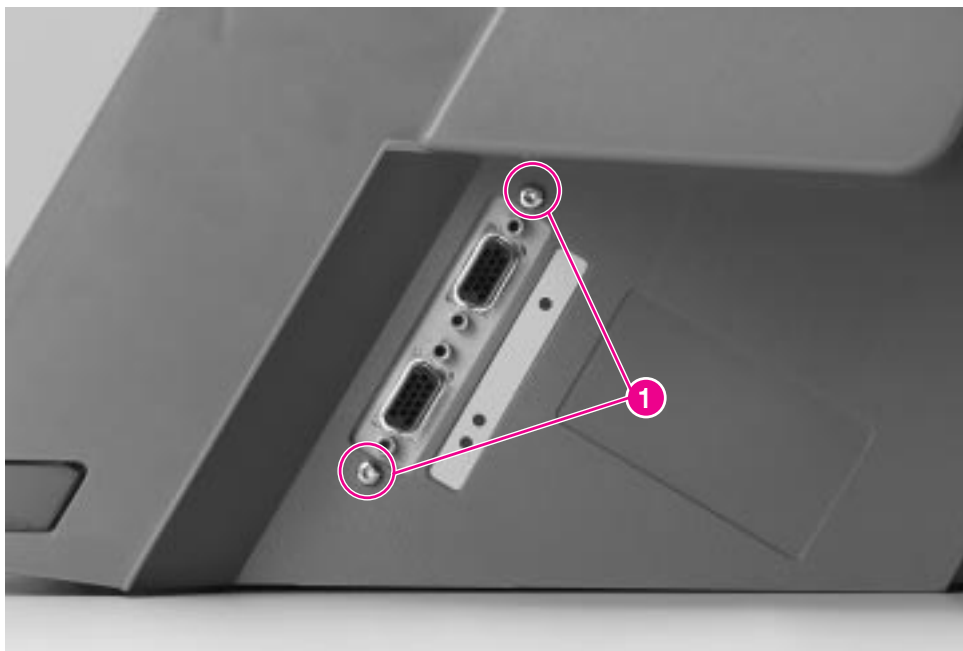

Figure 6-83 Stapler Controller PCA (1 of 3)
- 3 Remove 2 screws located on the right side of the Stapler (see figure 6-83, callout 1).